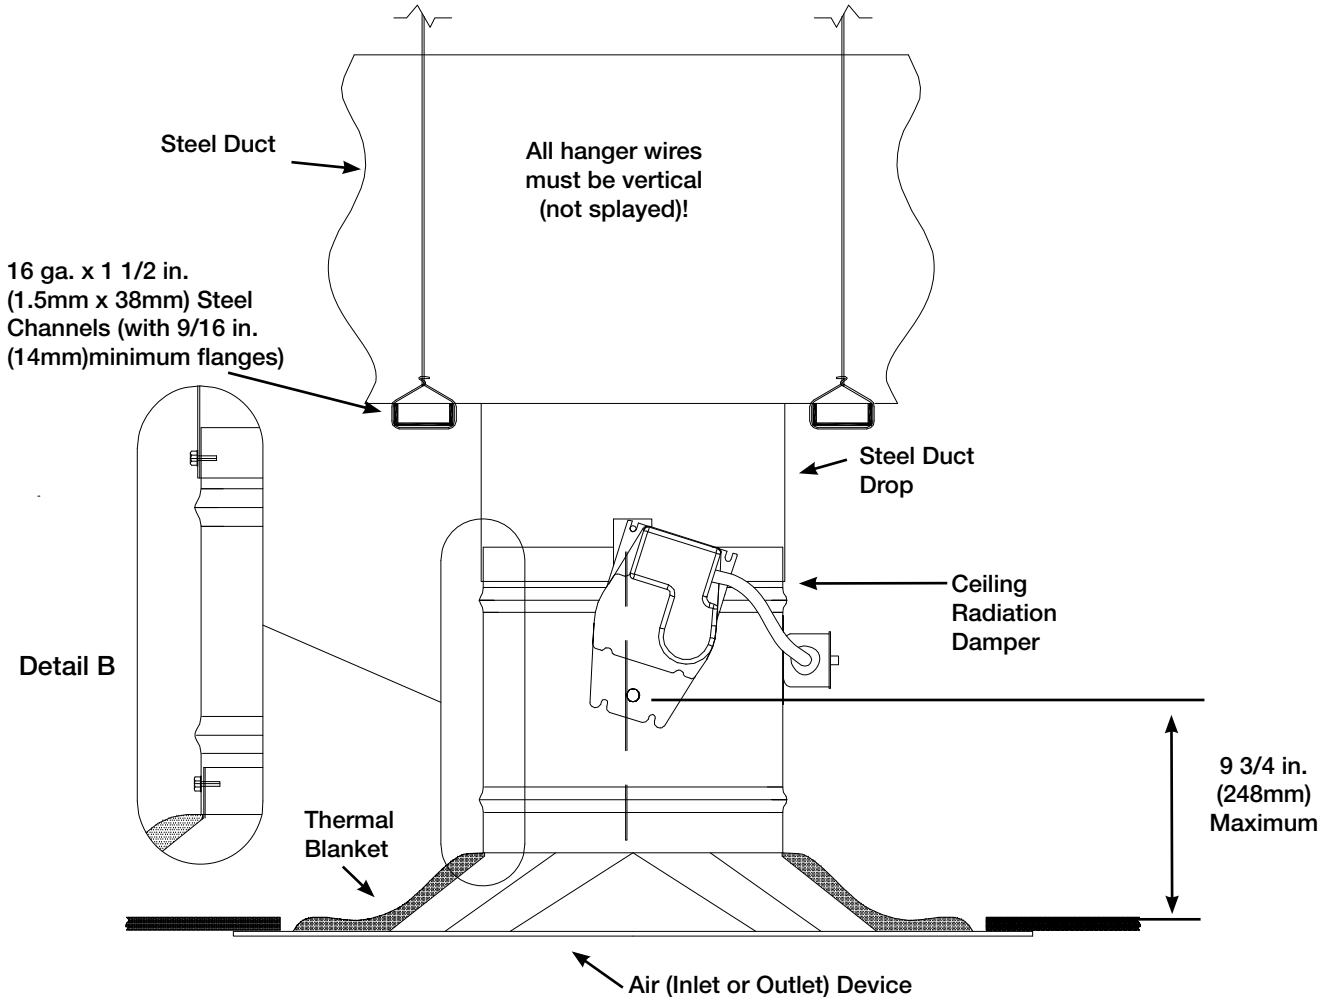

Figure 4
1. Ceiling radiation damper may be connected directly to the air device neck and then the duct drop connected to the damper (see Detail B, Figure 4).
Models CRD-501 may be installed as shown in **Figure 4**.